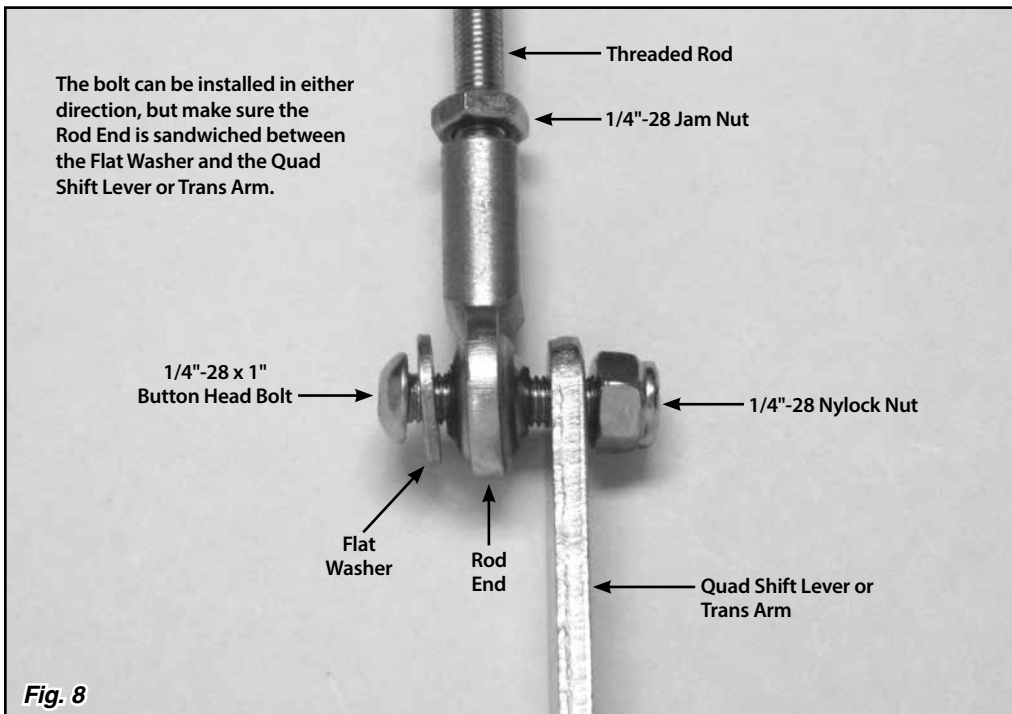
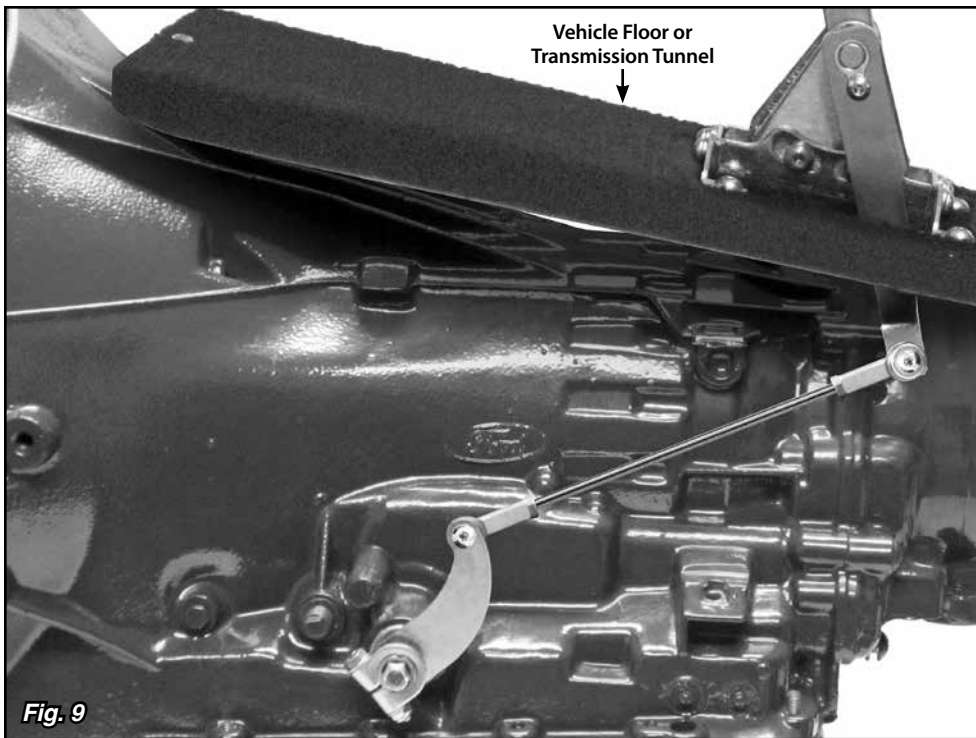

Fig. 8
Fig. 9
Step 12: Make sure that two 1/4"-28 jam nuts are installed on the threaded rod, one at each end. Install a rod end onto each end of the threaded rod. Position the rod ends on the inside or outside of the quad shift lever and trans arm so that the threaded rod is as straight as possible. Attach the threaded rod assembly to the quad shift lever and trans arm using the 1/4"-28 x 1" button head bolts, flat washers, and nylock nuts as shown in **Fig. 8**. The button head bolts can be installed from either direction, but make sure the rod ends are sandwiched between the flat washers and the quad shifter lever or trans arm. **Fig. 9**